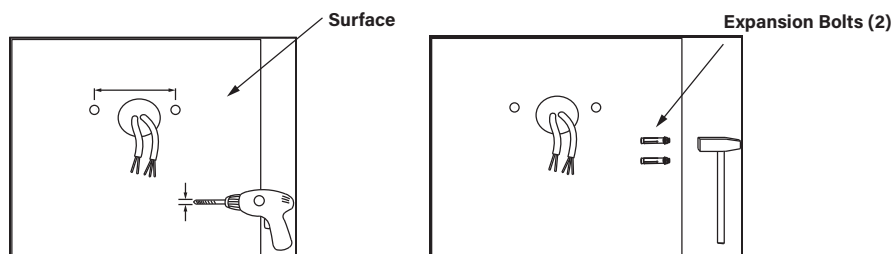

Figure 18
1. Drill holes into desired surface. (Figure 18)
2. Put expansion bolts (provided) into the drilled holes and loosen the nuts. (Figure 18)
3. Feed supply wires through opening in the wall. (Figure 18)